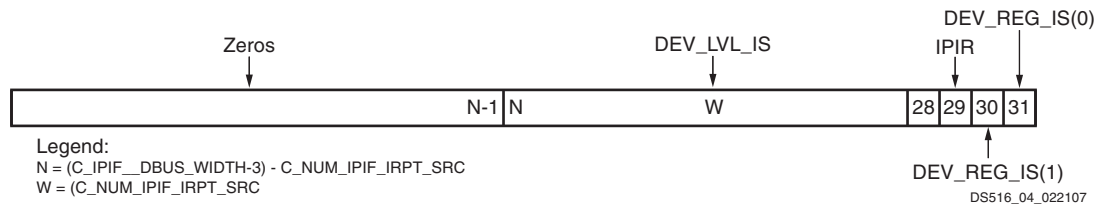

Figure 2-1: Device Interrupt Status Register
The Device Interrupt Status Register shown in Figure 2-1 gives the interrupt status for the device. This register is fixed at 32 bits wide and each utilized bit within the register is set to 1 whenever the corresponding interrupt input (IPIF_Lvl_Interrupts and IPIF_Reg_Interrupts) has met the interrupt capture criteria. Unlike the IP Interrupt Status Register, the capture mode for this register is fixed. DEV_REG_IS(0) and DEV_REG_IS(1) (mapped from the IPIF_Reg_Interrupts(0) and IPIF_Reg_Interrupts(1) ports, respectively) are captured with a sample and hold high mode. This means that if the input interrupt is sampled to be 1 at a rising edge of a Bus2IP_Clk pulse, the register bit is set to a 1 and held until the user interrupt service routine clears it to a 0. The remaining bits within the register, DEV_LVL_IS(), (mapped from IPIF_Lvl_Interrupts ports) are passed through. Any additional sample and hold operation is not necessary in this register because after being asserted, the bits are held by the source of the interrupt. These interrupts must be cleared at the source function.